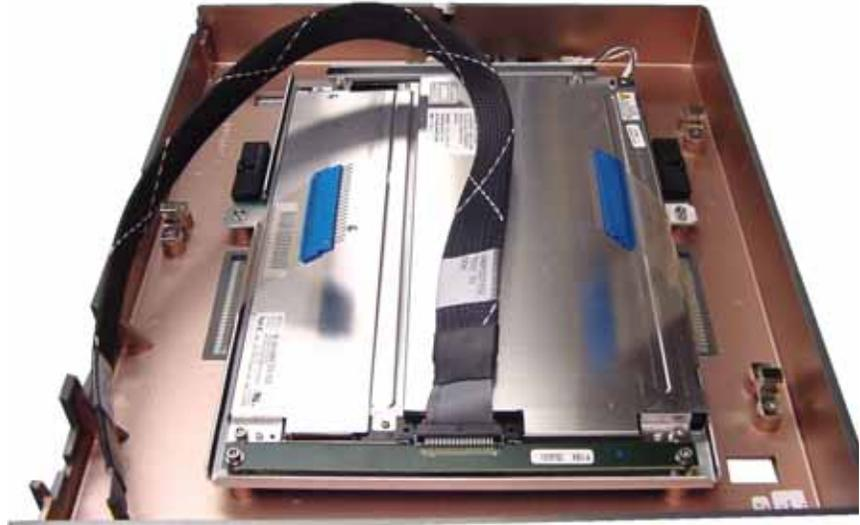

Figure 9-102: Installing the Color Display Cable
13. Install the color display data cable onto the transition PCB. Verify the cable is fully seated (Figure 9-102).